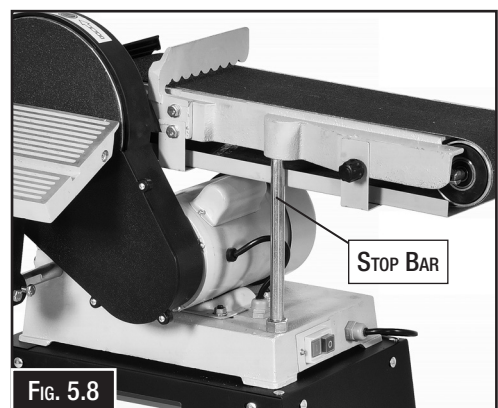

FIG. 5.8
4. To position the belt sander horizontally, Lower the belt sander completely until it sits on the stop bar shown in Fig. 5.8.